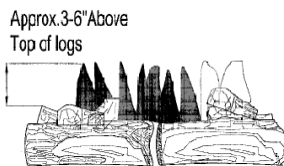

Figure 23- Correct Flame Pattern with Control Knob Set to High Flame (5)
- Figure 23 shows a correct burner flame pattern.